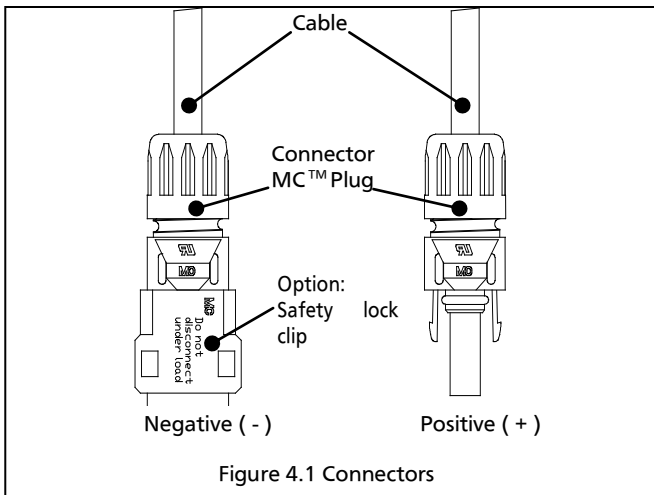

Figure 4.1 Connectors
- A junction box as a terminal enclosure is equipped for electrical connections. VBHNxxxSA17 is equipped with MC™ plugs as a terminal enclosure. Use these MC™ plugs for electrical connections (see Figure 4.1).